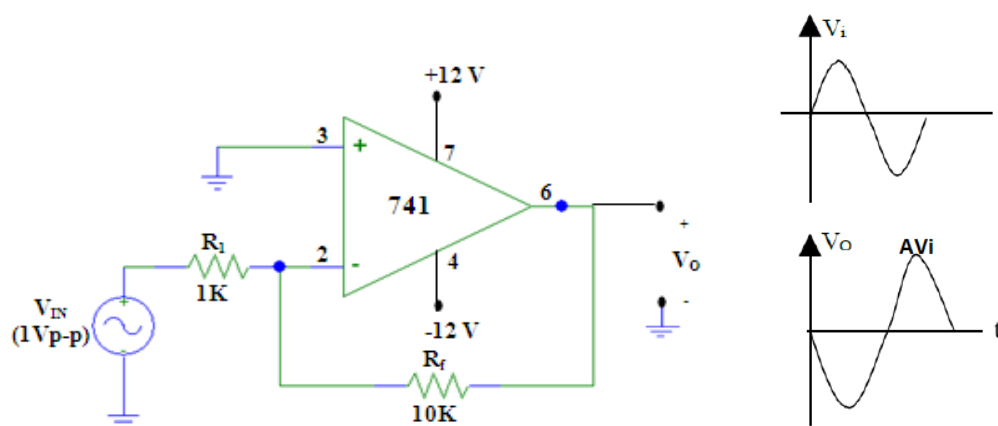

Figure 13.5: Circuit diagram of Inverting Amplifier
13.5 Draw electronic circuit diagram of as shown in Inverting Amplifier Figure 13.5